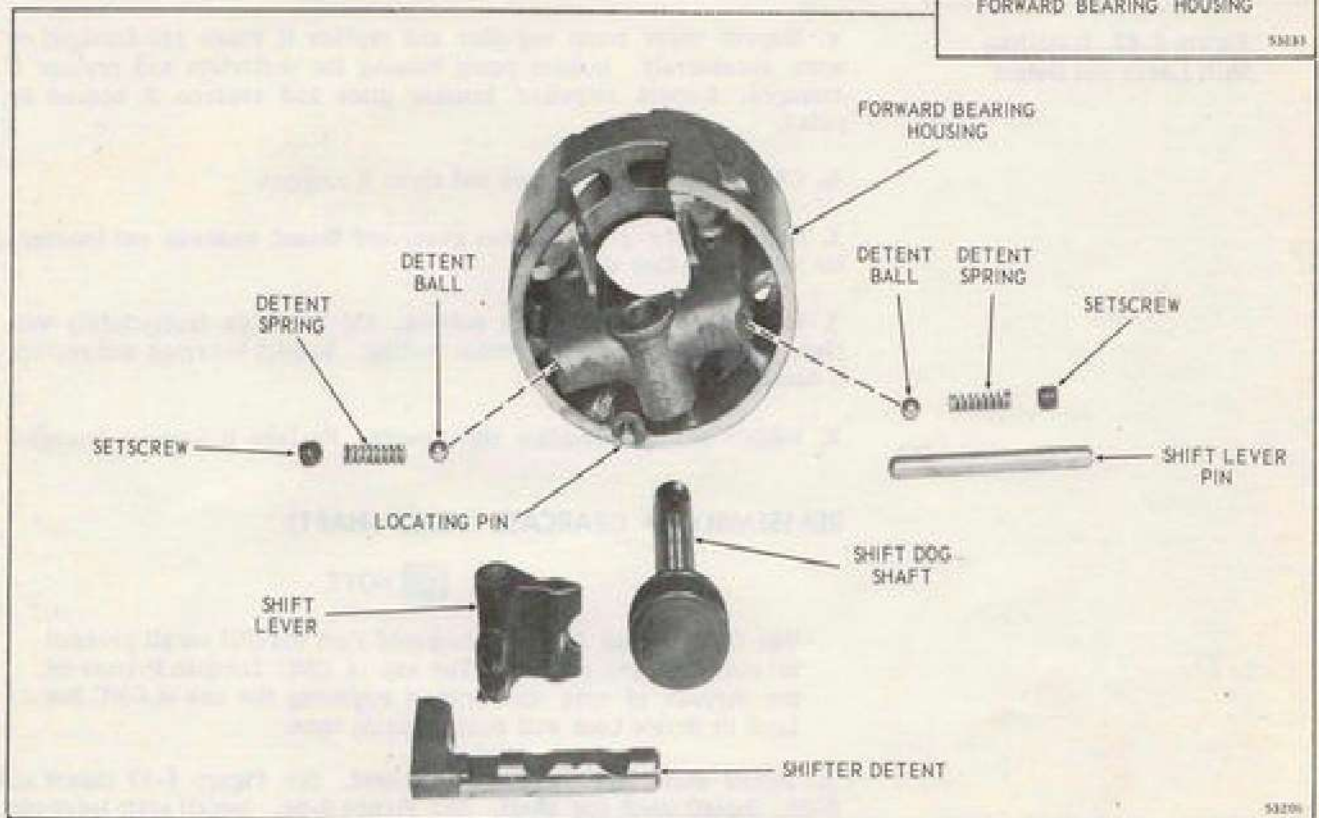

Figure 6-62. Bearing Housing Components
b. Remove two setscrews, springs and shifter detent balls from forward bearing housing. See Figure 6-62.
c. Remove shift lever pin. See Figure 6-62. Remove shift lever, shifter detent and shift dog shaft. See Figure 6-62 and insert.
a. Install shift lever and shifter detent. See Figure 6-62 insert and 6-63. Install shift dog shaft. See Figure 6-64. Install shift lever pin. See Figure 6-62 insert.
b. Install detent balls and springs. Apply OMC Screw Lock to set-screw threads. Tighten setscrews until flush with bearing housing. See Figures 6-62 and 6-65A.